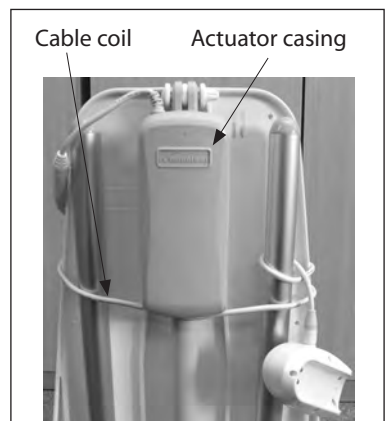

Figure 5
- Loop the remainder of the cable around one of the tubes (**fig 5**);
- v) Fill the bath/tub with water to the required level ensuring the actuator casing **(see fig 5)** is not submerged in water. Check that the water temperature is not too hot before using the bath lift.